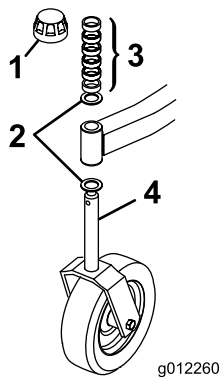
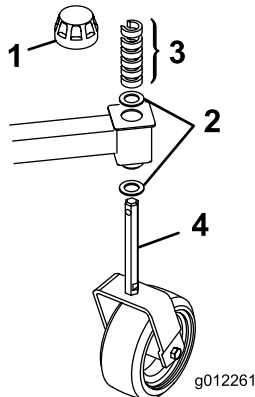

Figure 2
Figure 3
1. Remove the tensioning caps from the spindle shafts and slide off the spacers and thrust washers (Figure 2 & Figure 3).
- Slide the spacers onto the castor spindle to get the desired height-of-cut; refer to the Height-of-Cut Chart in the Adjusting the Height of cut section . Slide a thrust washer onto the spindle. Push the large castor spindle through the front castor arm and the small castor spindle through the rear castor arm. Install another thrust washer and the remaining spacers onto the spindle and install the tensioning cap to secure the assembly (Figure 2 & Figure 3).